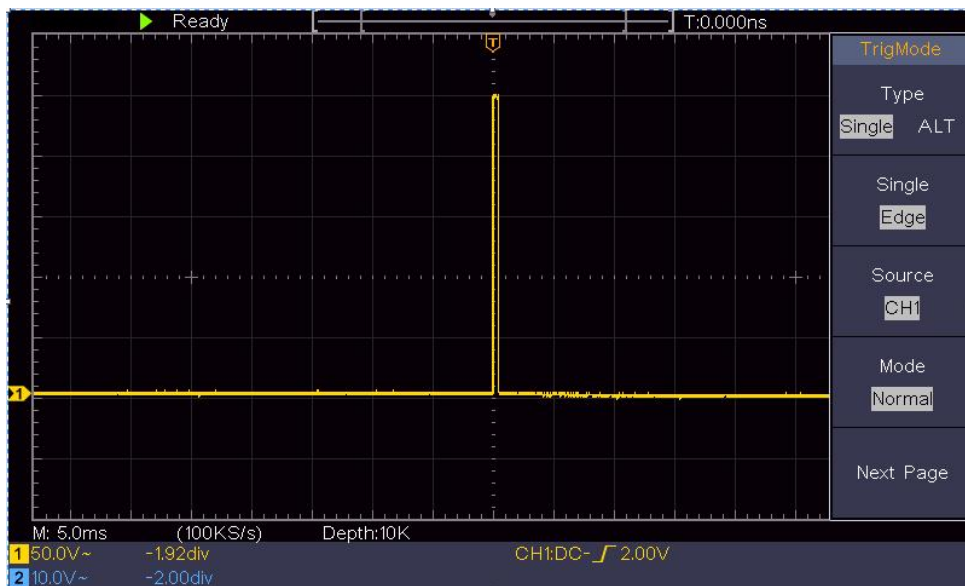

Figure 7-3 Capturing a Single Signal
- (2) Adjust the **Vertical Scale** and **Horizontal Scale** knobs to set up a proper vertical and horizontal ranges for the signal to be observed.
- (3) Push the **Acquire** button to display the right menu.
- (4) In the right menu, select **Acqu Mode** as **Peak Detect**.
- (5) Push the **Trigger Menu** button to display the right menu.
- (6) In the right menu, select **Type** as **Single**.
- (7) In the right menu, select **Single** as **Edge**.
- (8) In the right menu, select **Source** as **CH1**.
- (9) In the right menu, press **Next Page**, select **Coupling** as **DC**.
- (10) In the right menu, select **Slope** as  (rising).
- (11) Turn the **Trigger Level** knob and adjust the trigger level to the roughly 50% of the signal to be measured.
- (12) Check the Trigger State Indicator on the top of the screen, if it is not Ready, push down the **Run/Stop** button and start acquiring, wait for trigger to happen. If a signal reaches to the set trigger level, one sampling will be made and then displayed in the screen. By using this approach, a random pulse can be captured easily. For instance, if we want to find a burst burr of high amplitude, set the trigger level to a slightly higher value of the average signal level, push the **Run/Stop** button and wait a trigger. Once there is a burr occurring, the instrument will trigger automatically and record the waveform during the period around the trigger time. By turning the **Horizontal Position** knob in the horizontal control area in the panel, you can change the horizontal triggering position to obtain the negative delay, making an easy observation of the waveform before the burr occurs (see *Figure 7-3*).